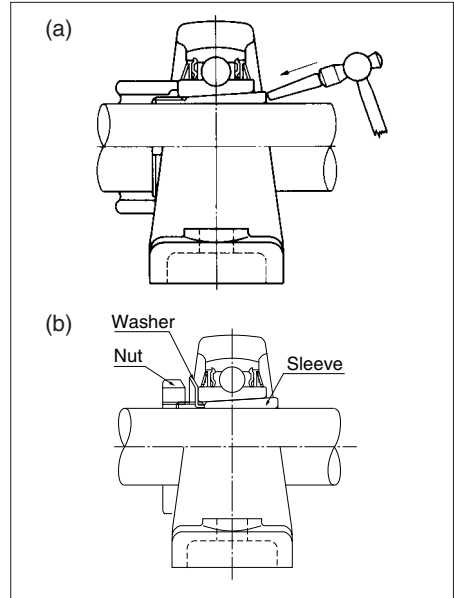

Fig.8.8
sleeve so that the bearing inner ring is closely seated on the tapered side of the sleeve (**Fig.8.8 (a)**).
- 3) Place the lockwasher, and fully hand-tighten the nut (**Fig.8.8 (b)**).